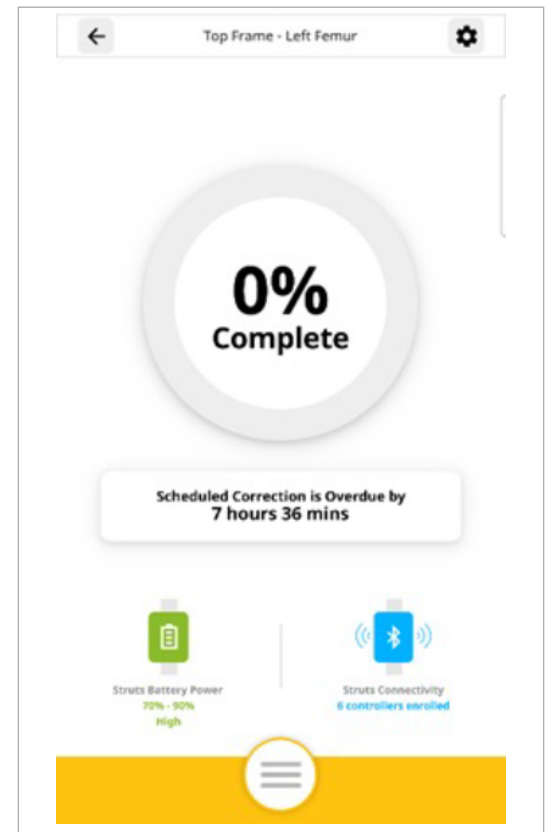

Figure 38
- Open the HexConnect mobile application and navigate to the correction plan using the app menu located near the bottom of the screen. You can also access the plan by tapping the “Next Correct In...” button. **(Figure 38)**